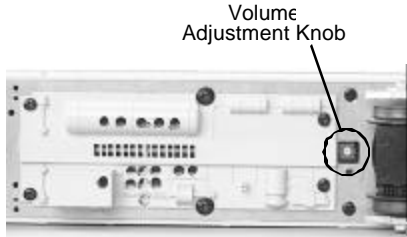

Figure 1. Location of the Proto-Sound 2 Volume Adjustment Knob
**Volume Control** –To adjust the volume of all sounds made by this engine, turn the master volume control knob located under the engine clockwise to increase the volume and counter-clockwise to decrease the volume (see Fig. 1).